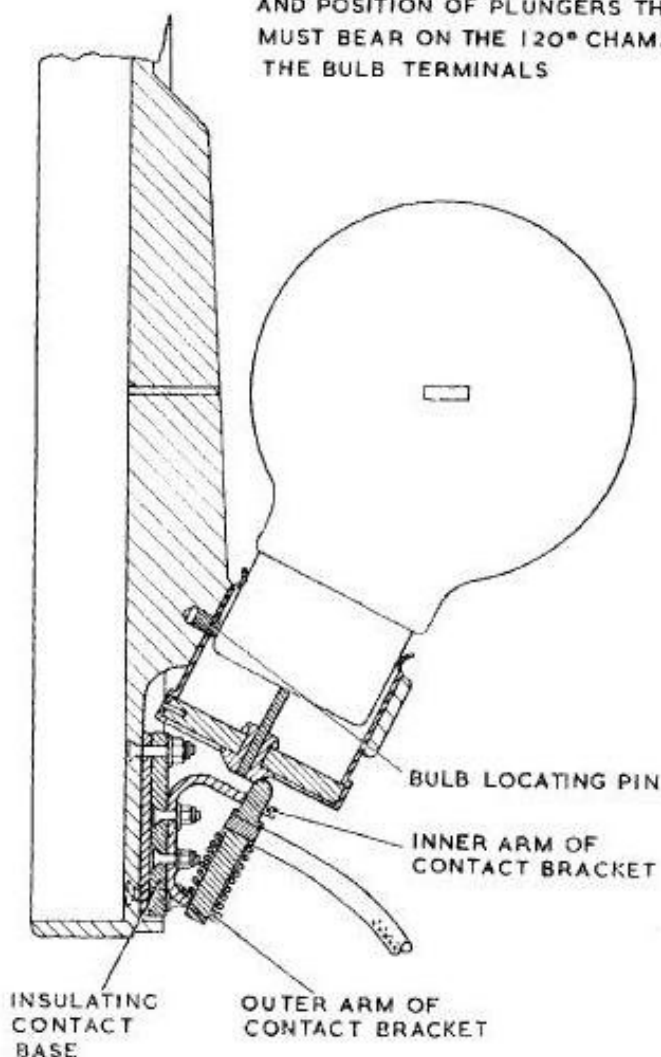

Fig. 2. Filament holder and contacts
14. ◀ Current is fed to the filament lamp by cables which connect directly to two spring-loaded, plunger type contacts. These plungers are held between the arms of U-brackets mounted on an insulated base attached to the lens frame casting, and locate on the top of the bulb terminal chamfer, as shown in fig. 2. To remove a spring or plunger, the spring must be compressed until the plunger can be withdrawn through the hole in the inner arm of the bracket. The plunger can then be tilted in the outer arm of the bracket and lifted out, care being taken to prevent the loss of the spring. ▶